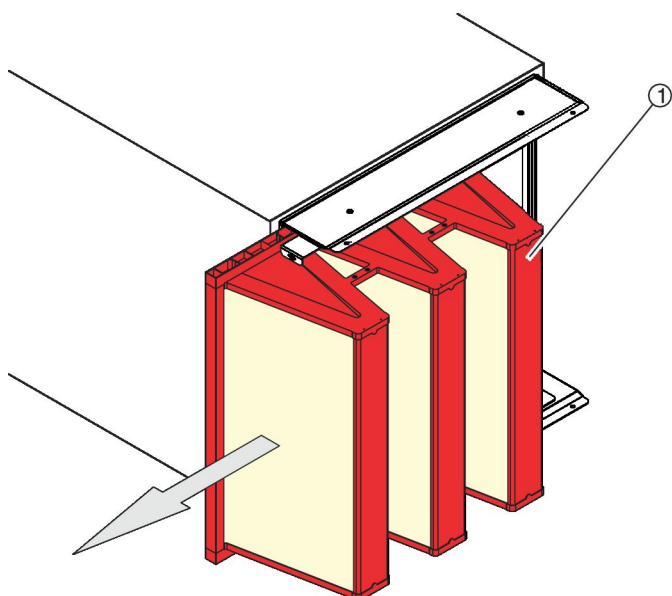

Fig. 63: Pulling out the filter
5. ▶ Pull the filter ( Fig. 63 /1) out to the side.